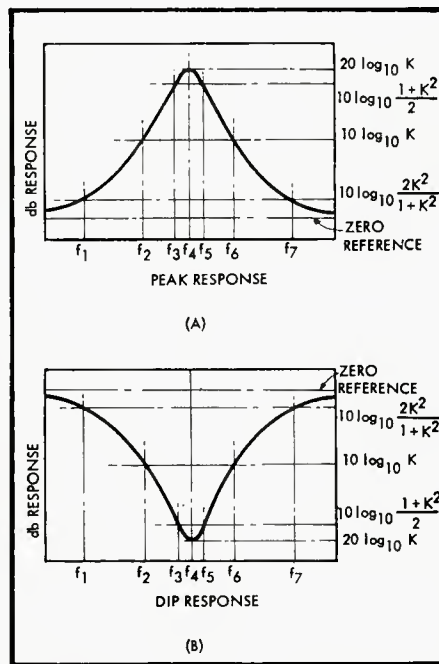

Fig. 8. Essential dimensions of peak and dip response characteristics.
*Figure 8* shows the basic response configuration achieved by peak and dip circuits together with the position of the frequencies determined by this method. The relevant formulas are given